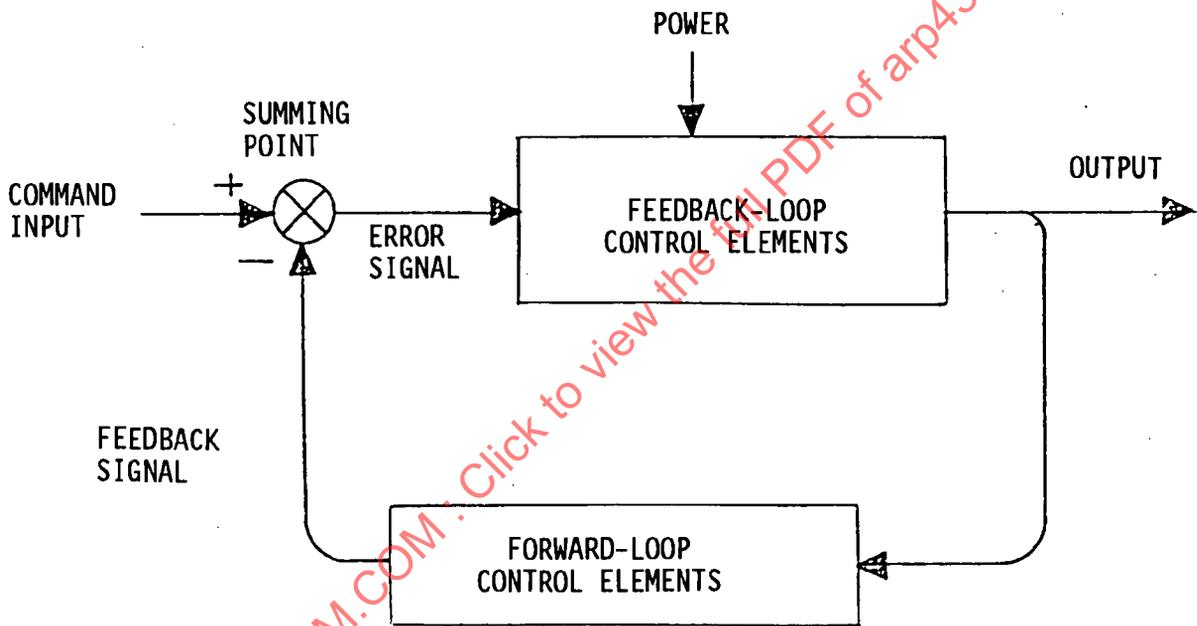

FIGURE 8 - Closed Loop Control System
**CLOSED LOOP CONTROL SYSTEM:** A control system in which the command is compared with a measurement of system output and the resulting error signal is used to drive the load towards the desired output. Figure 8 illustrates a closed loop control system.